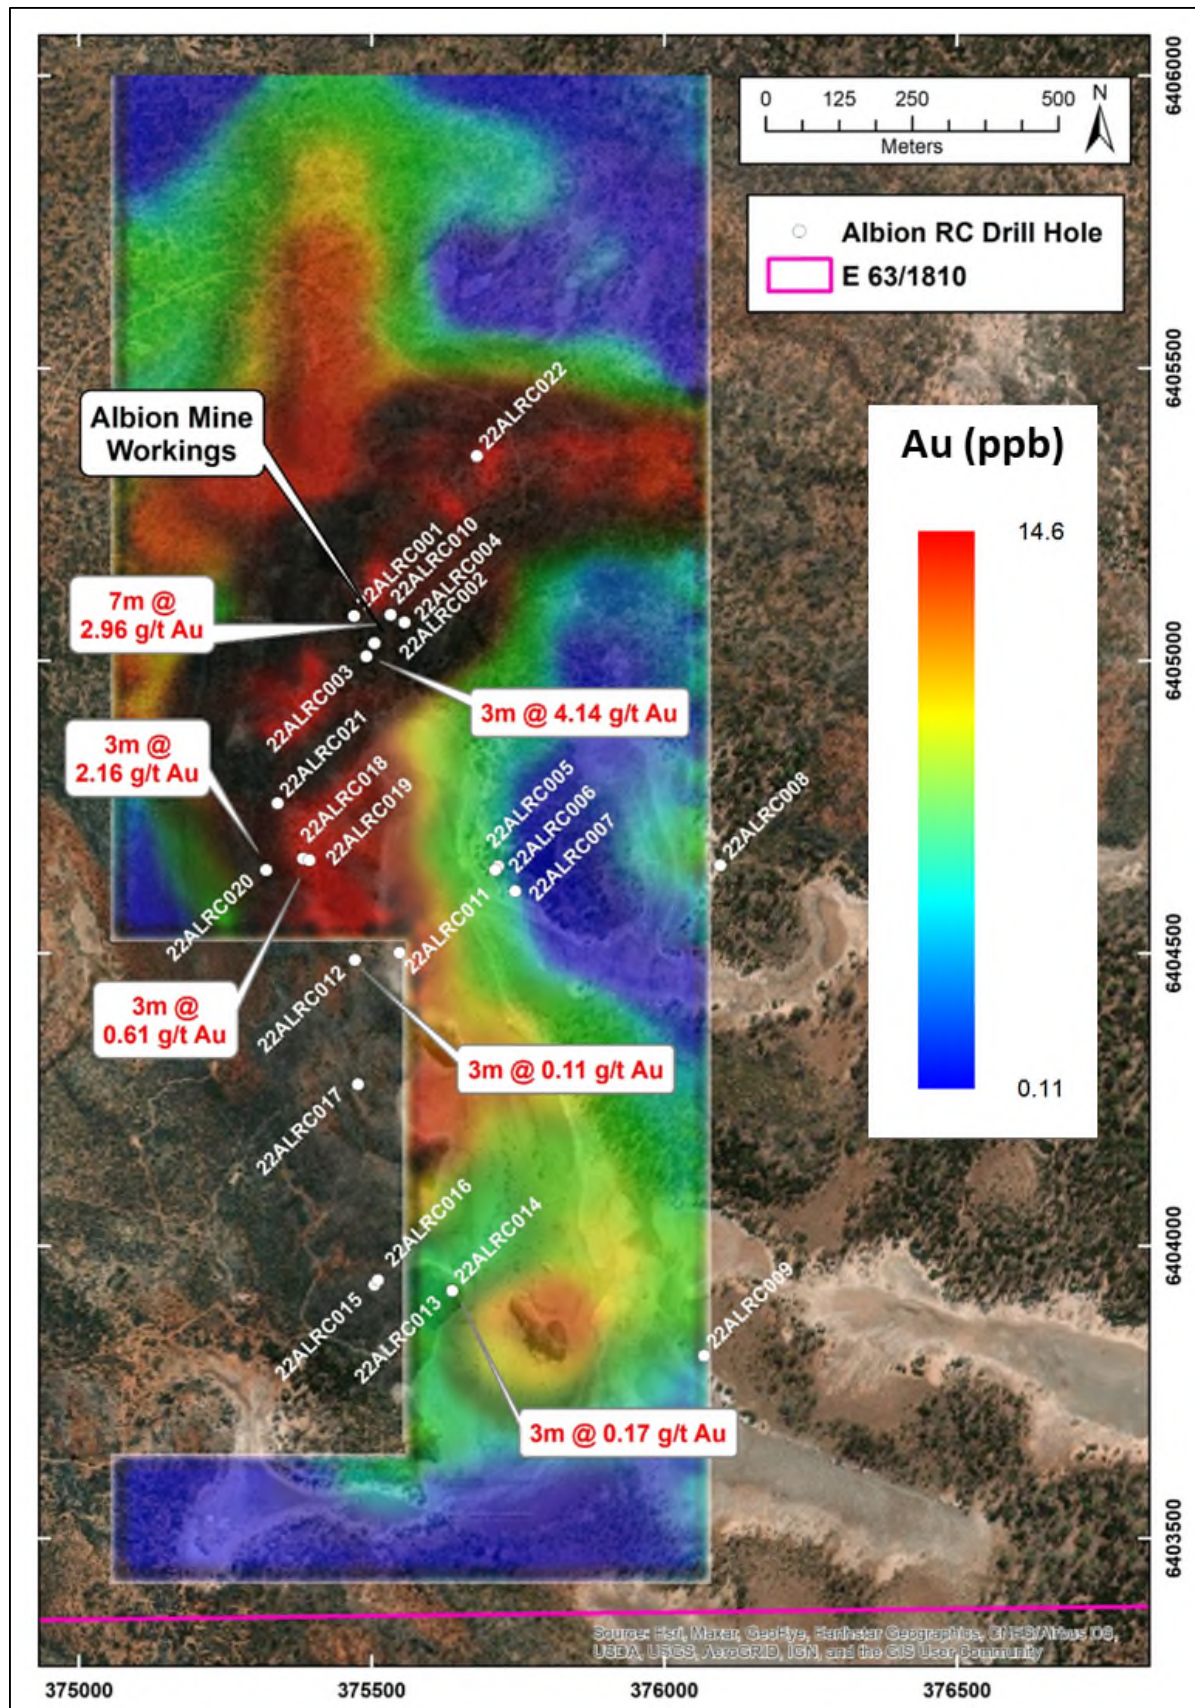

Figure 1: Drilling status plan of the Albion project showing the maximum downhole gold intersections and gridded gold surface geochemical sampling results.
Mt Monger Resources Limited (ASX:MTM) (**Mt Monger** or the **Company**) has received initial gold assay results for the inaugural reverse circulation (RC) drilling program recently completed at the Albion project located near Norseman in Western Australia (Figure 1). Note that multi-element assays, including lithium, are still awaited for the drilling samples.